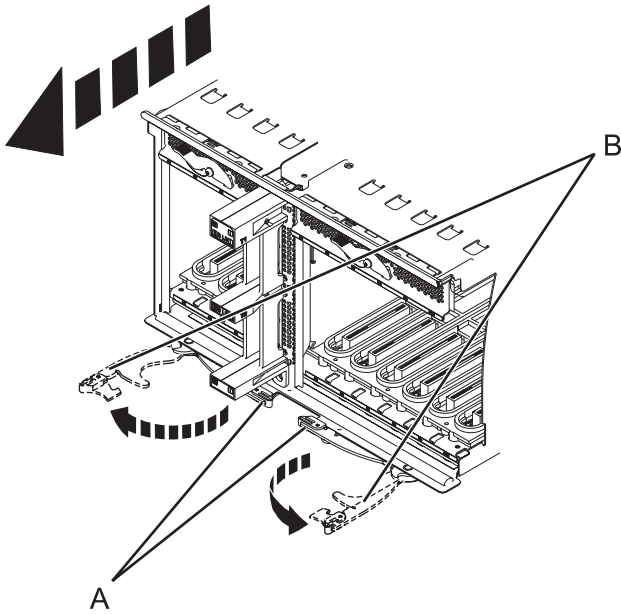

Figure 81. Removing the I/O system board
12. Squeeze the release latches (**A**) and pull the levers (**B**) out away from the system, as shown in Figure 81.